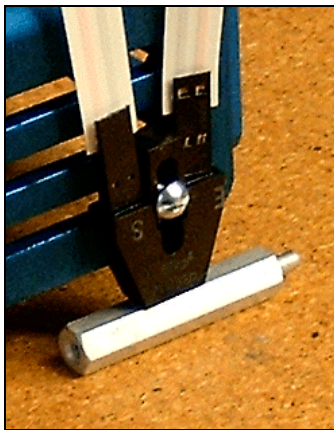

Figure 1. Setting sensor height.
2. Gently loosen the connecting screw, and adjust the height of the sensors to be about 6 to 7 millimeters (about 1/4 inch). **NOTE:** The extra standoffs provided with some kits can be used to gauge the appropriate height, as shown in Figure 1.